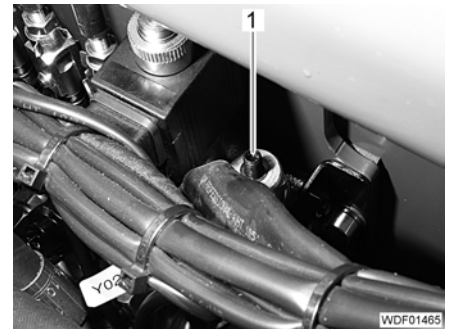

Fig. 42 Adjustment screw
- Turn adjustment screw of the primary pressure limiting valve (Fig 42,1) clockwise using an Allen key (pressure increases).